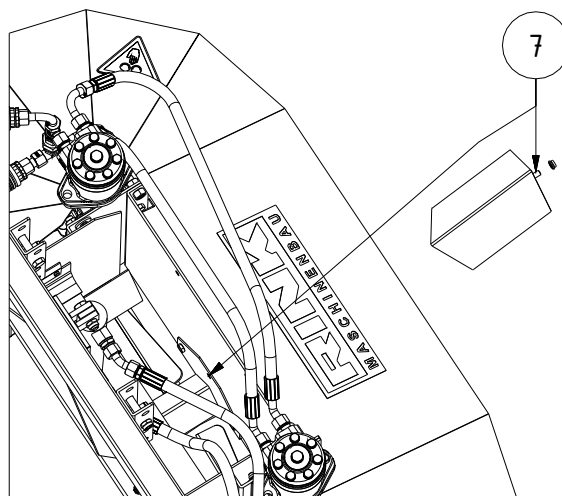

Fig.3: Spreader
- (7) Guide plate (see page 11 Fig. 3)
- When using very moist material and large spreading thickness, the guide plate (7) can be removed from the spreader (using nut M8) (Fig. 3).